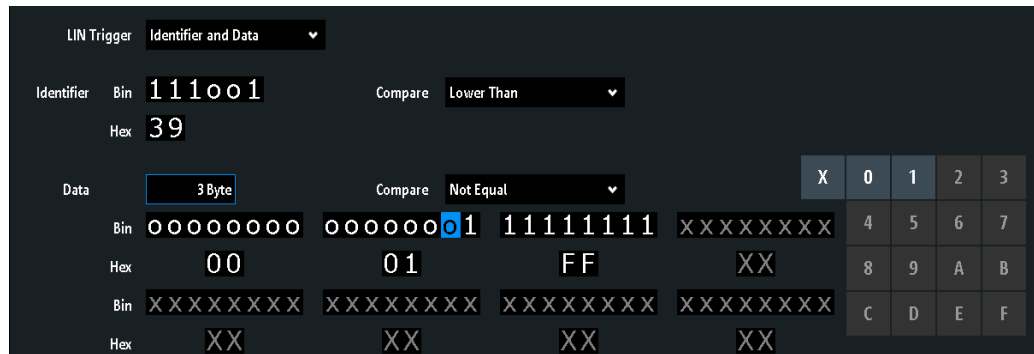

Figure 13-32: Trigger setup to trigger on identifier and data patterns
- "Identifier and Data" Triggers on a combination of identifier and data condition. The instrument triggers at the end of the last byte of the specified data pattern. An example is shown in Figure 13-32. See "Identifier condition" on page 304 and "Data condition" on page 305.